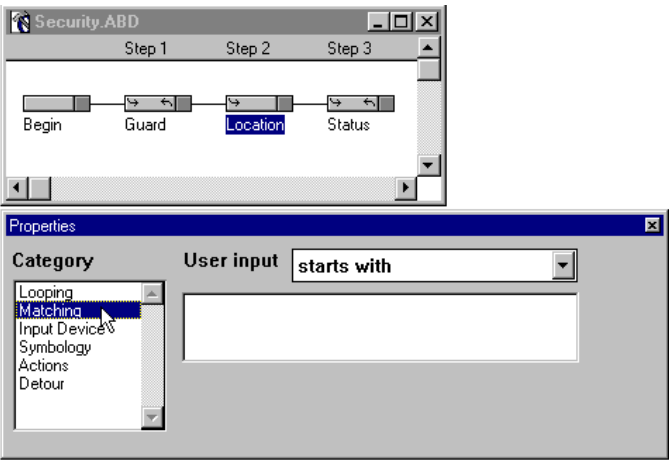

Figure 3-34 “Location” Handler - Matching Property
30. Select **Matching** from the **Properties** window (Figure 3-34).